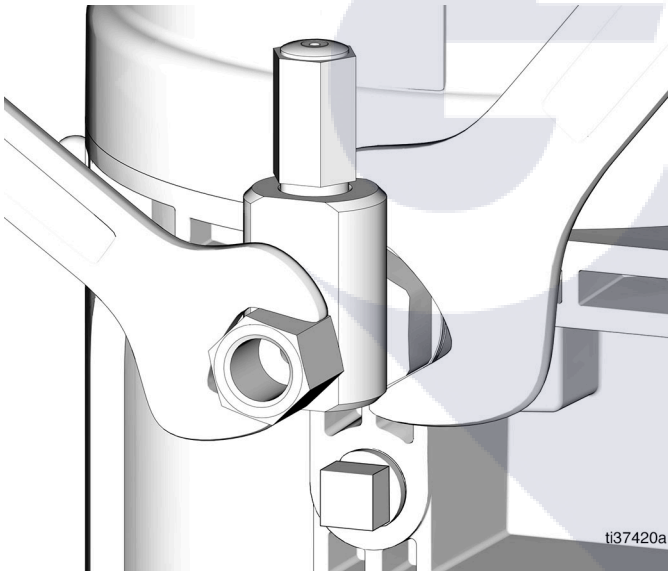

FIG. 21
1. Loosen the pump element fitting (FIG. 21).